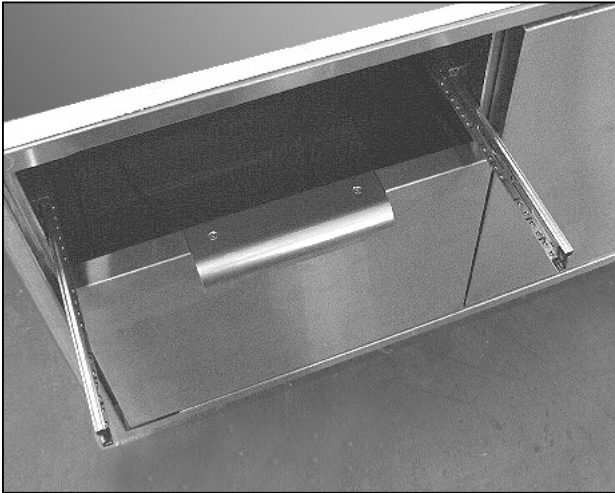

Fig. 60
1. Re-install the drawers by extending their guides as shown in Fig. 60.